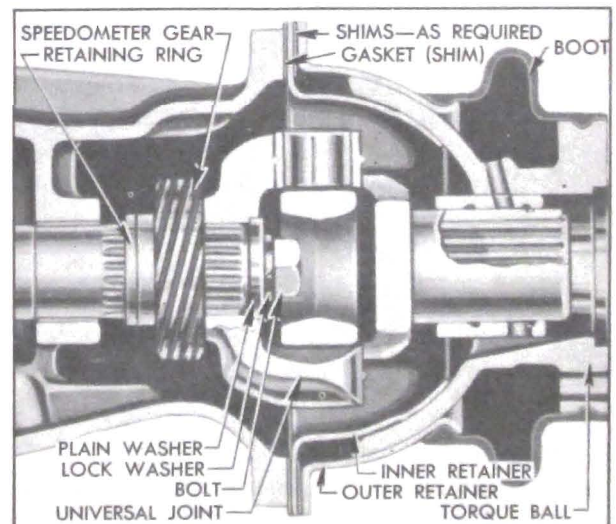

Figure 5-34—Torque Ball and Universal Joint
2. Remove attaching bolts, then remove the torque ball with inner and outer retainers, and all paper shims. See figure 5-34. Do not lose the paper shims which govern the adjustment of torque ball.